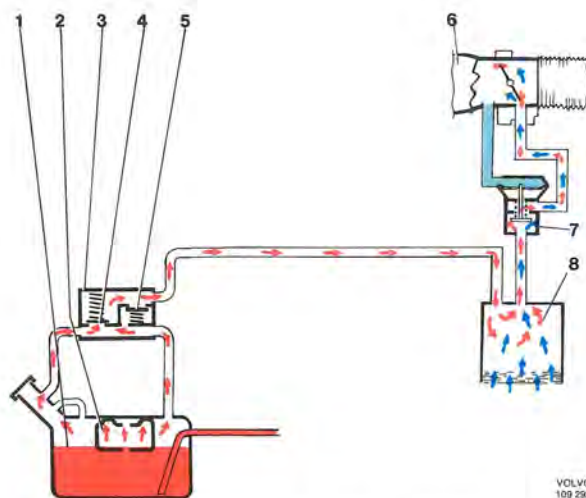
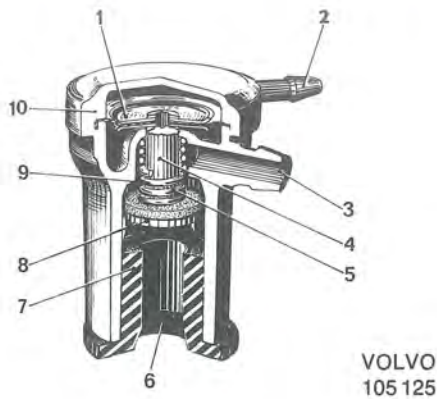

Fig. 2-79. Gas evaporative emission control system
Fig. 2-80. Air valve
An expansion tank (2, Fig. 2-79) in the fuel evaporative emission control system absorbs any fuel expansion caused by temperature with a full tank.
Fig. 2-79 shows how the system functions in principle. Fuel fumes in the fuel tank, particularly during warm weather, are conveyed through hoses to the equalizing valve (3, see red arrow).
The air valve (Fig. 2-80) controls the connection between the venting filter and the carburetor venturi. The space above the diaphragm (1) is connected by a line to the intake manifold, see Fig. 2-79.
At high vacuum, the air valve is kept closed. When the vacuum drops the valve opens and air is drawn through the venting filter and vacuum valve to the carburetor venturi. Fuel fumes stored in the venting filter follow the air into the engine and take part in the combustion (fig. 2-79).